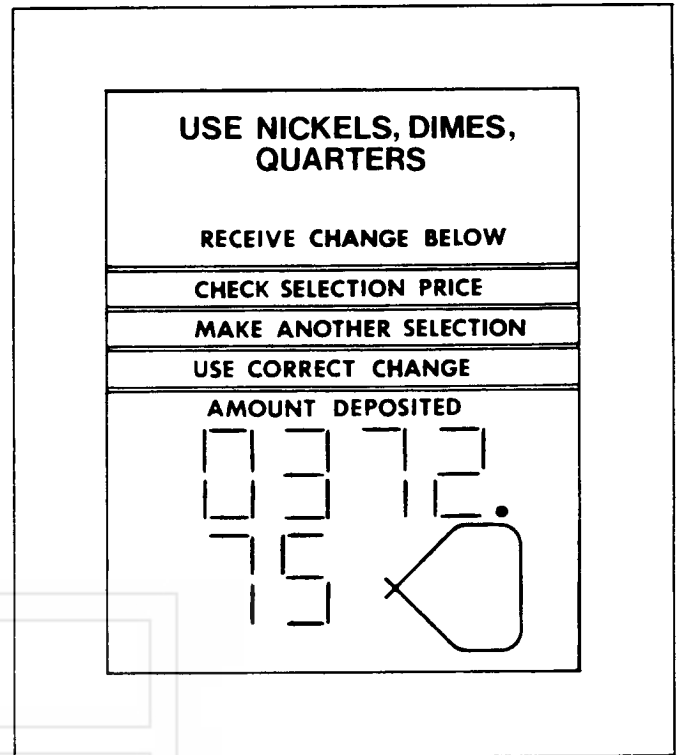

Figure 18. SHOWING \$372.75
- B. Press button 14 on the selection panel and the total dollars vended by the machine will be displayed (Figure 18).
- C. To display number of vends by any product code. For example, enter the product code (63) then the letter G. The number of vends and the product code will be displayed. Repeat until all desired information has been displayed and recorded.